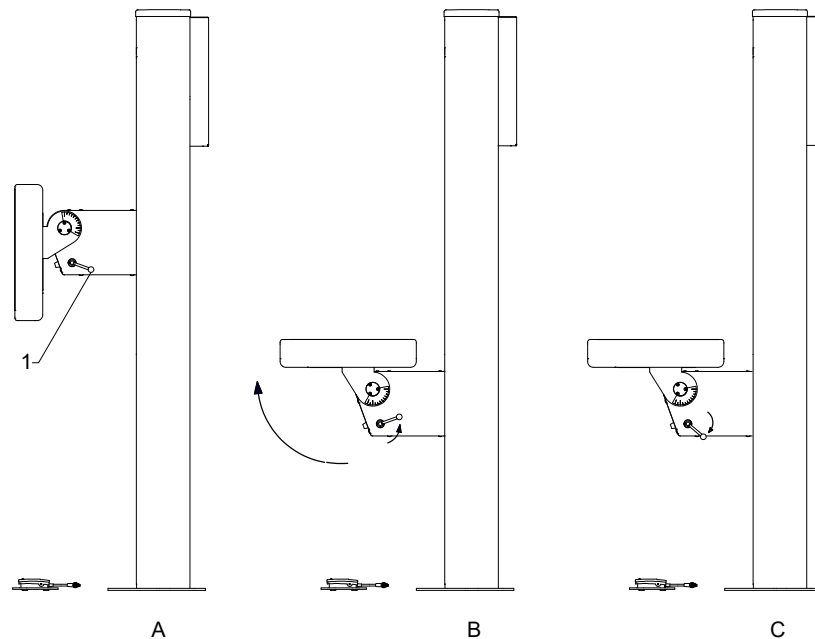

Fig. 4-21 Tilting detector holder
To position the handle (See pos. 1 in Fig. 4-21, in its start position);